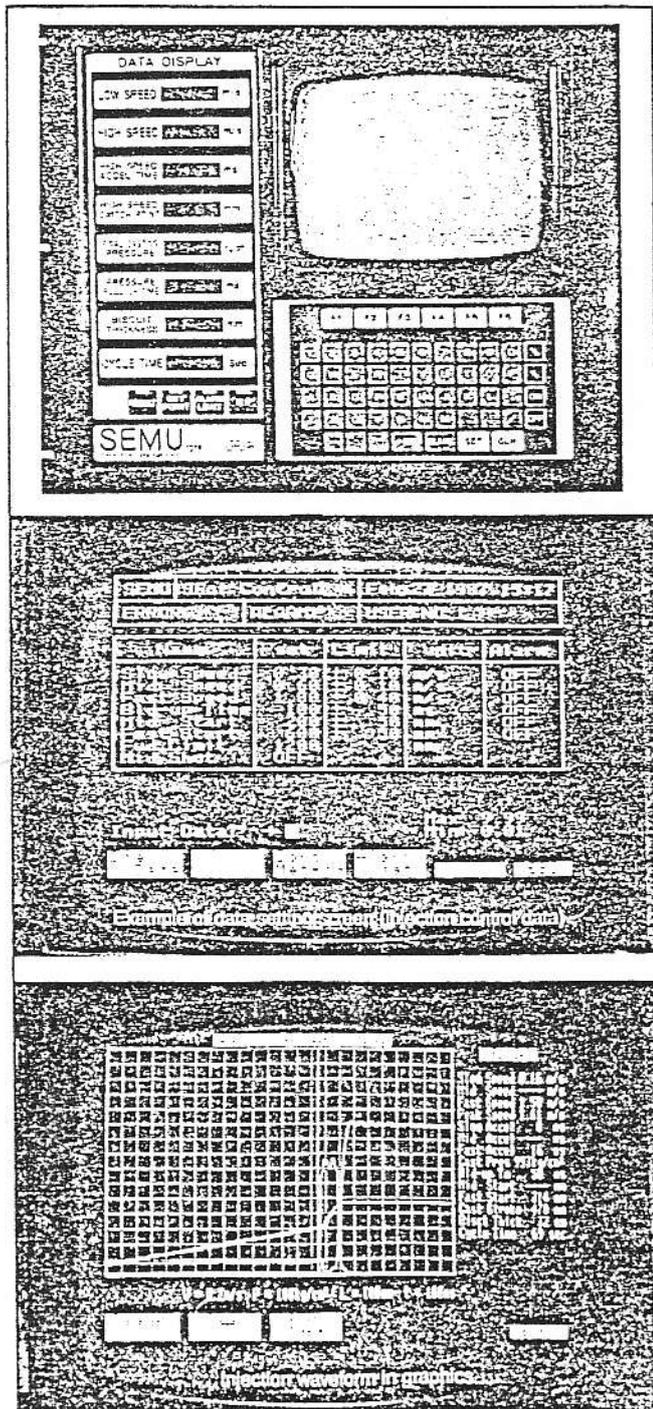

Fig. 4. Front view of SEMU panel and sample displays.
**Setting the number of data sampling**—Another solution for preventing over-offset is to increase the amount of the data for offset and to use average value. Increasing the data sampling, however, reduces the response characteristics. To settle this problem, the SEMU (Fig 4) has variable sampling counts. The past operation references of Toshiba machines show that only one sampling count is enough to assure outstanding stability in the initial condition of the machines.